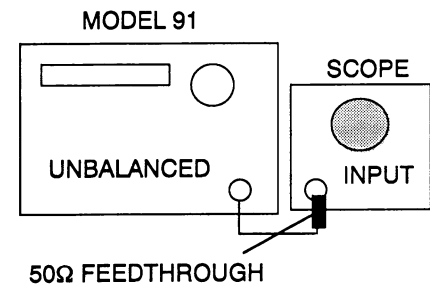

Figure 4-13. Triangle Amplitude Setup
1. The Model 91 displays **TRI AMPL R211 1**. Connect the test equipment (Scope set for V_{dc}) as shown in figure 4-13. Note the amplitude of the triangle wave.
1. The Model 91 display reads **SIN AMPL R208 0**. Leave the test equipment connected as shown in figure 4-13.
1. The Model 91 display **HF SYM R9**. Leave the test equipment connected as shown in figure 4-13.
1. The Model 91 display reads **HF QUAL R69, ..., R86**. Leave test equipment as shown in figure 4-13.